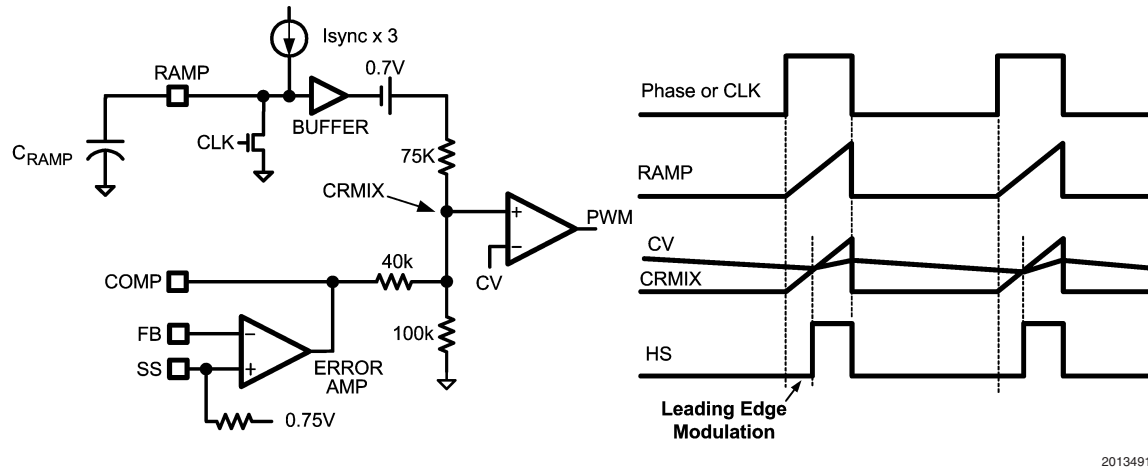

FIGURE 4. Synchronization and Leading Edge Modulation
the capacitor connected to the RAMP pin as shown in *Figure 4*. The ramp signal and the output of the error amplifier (COMP) are combined through a resistor network to produce a voltage ramp with variable dc offset (CRMIX in *Figure 4*). The high side MOSFET which drives the HS pin is held in the off state at the beginning of the phase signal. When the voltage of CRMIX exceeds the internal threshold voltage CV, the PWM comparator turns on the high side MOSFET. The HS pin rises and the MOSFET delivers current from the main converter phase signal to the output of the auxiliary regulator. The PWM cycle ends when the phase signal falls and power is no longer supplied to the drain of the high side MOSFET.
of the sense amplifier is nominally equal to 16. The current sense output signal is shifted by 1.27V to produce the internal CV reference signal. The CV signal is applied to the negative input of the PWM comparator and compared to CRMIX as illustrated in *Figure 4*. Thus the PWM threshold of the voltage mode controller (CV) varies with the instantaneous inductor current.
Current limiting is implemented through the current sense amplifier as illustrated in *Figure 6*. The current sense amplifier monitors the inductor current that flows through a sense resistor connected between CS and VOUT. The voltage gain of the current sense amplifier is nominally equal to 16. The output of current sense signal is shifted by 1.27V to produce the internal CV reference signal. The CV signal drives a current limit amplifier with nominal transconductance of 16mA/V. The current limit amplifier has an open drain (sink only) output stage and its output pin CO is typically connected to the COMP pin. During normal operation, the voltage error amplifier controls the COMP pin voltage which adjusts the PWM duty cycle by varying the internal CRMIX level (*Figure 4*). However, when the current sense input voltage  $V_{CL}$  exceeds 45mV, the current limit amplifier pulls down on COMP through the CO pin. Pulling COMP low reduces the CRMIX signal below the CV signal level. When CRMIX does not exceed the CV signal, the PWM comparator inhibits output pulses until the CRMIX signal increases to a normal operating level.
Both drivers are controlled by the PWM logic signal from the PWM latch. When the phase signal is low, the outputs are held in the reset state with the low side MOSFET on and the high side MOSFET off. When the phase signal switches to the high state, the PWM latch reset signal is de-asserted. The high side MOSFET remains off until the PWM latch is set by the PWM comparator (CRMIX > CV as shown in *Figure 4*). When the PWM latch is set, the LO driver turns off the low side MOSFET and the HO driver turns on the high side MOSFET. The high side pulse is terminated when the phase signal falls and SYNC input comparator resets the PWM latch.